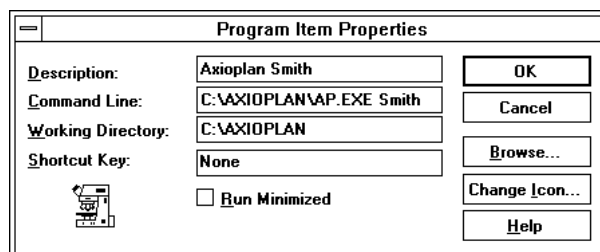

Fig. 45 Program Item Properties Dialog box
- The next dialog box might contain the following entries (see Fig. 45).